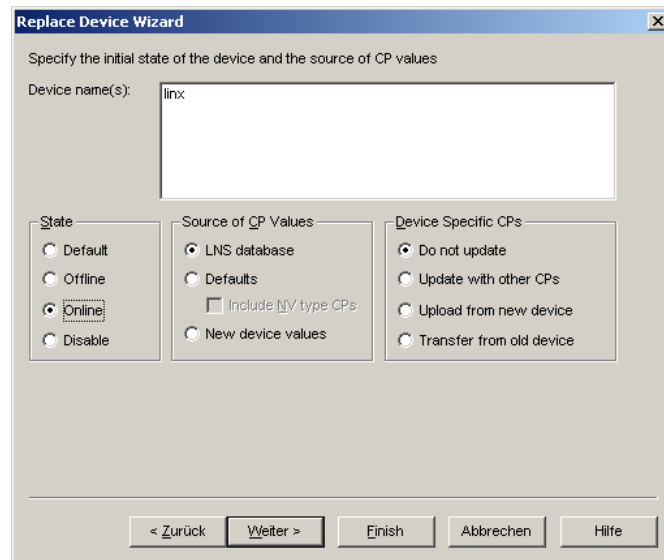

Figure 73: Select online state.
5. Then select **Online** as shown in Figure 73 and click **Next**.